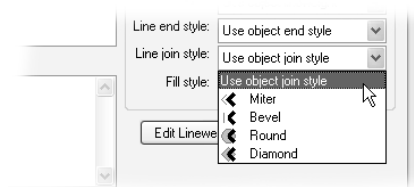

Figure 12.28
**Line Join Style** This option lets you determine the shape of the corners of polylines (see Figure 12.28).